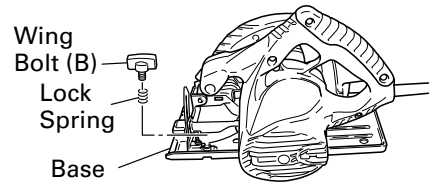

Fig. 12
3. Regulating the guide (Rip fence) (Fig. 12, 13)